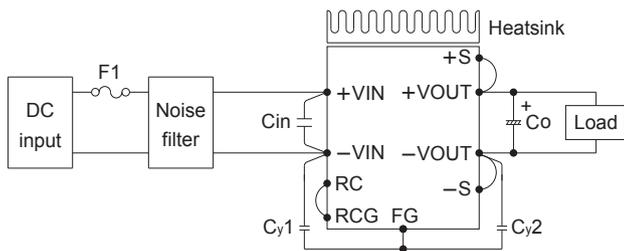

Fig.1.1 Connection for standard use
■ In order to use the power supply, it is necessary to wire as shown in Fig.1.1 and external components in table 1.1.